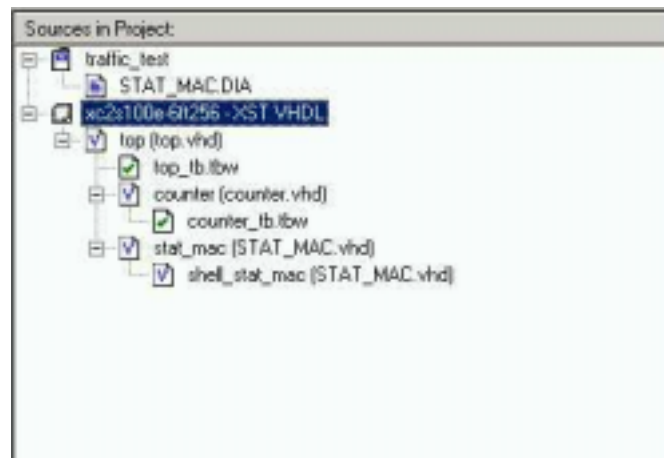

Figure 6.1.1 Sources in Project Window
*Double click on xc2s100e-7FT256 – XST VHDL in the Sources Window shown below in figure 6.1.1.*